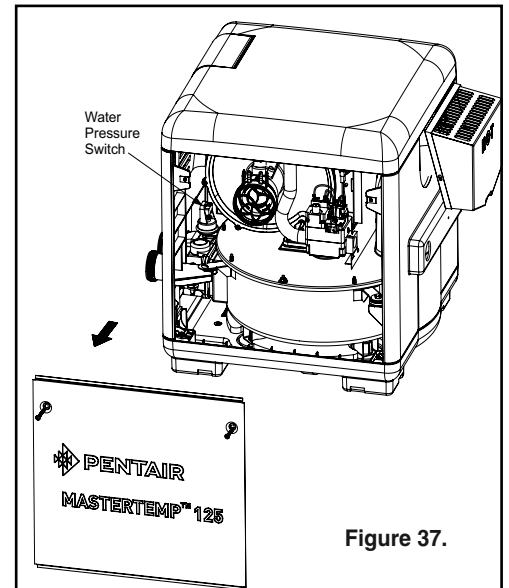

Figure 37.
5. Remove the access door panels by unfastening the two (2) screws located on each door, then lift up and out from the bottom of the panel to remove. If necessary, the screws may be used as handles, see Figure 37.
3. Remove the access door panels, see Figure 37.